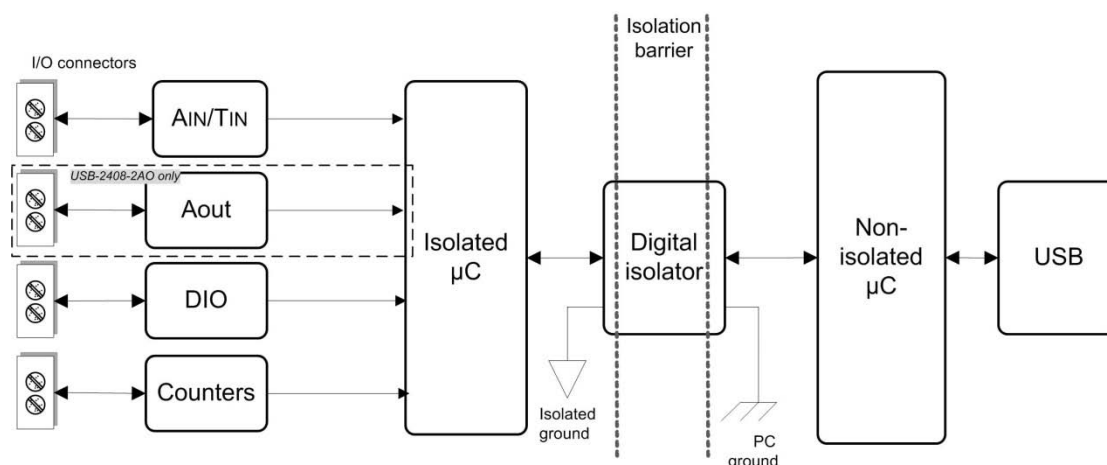

Figure 6. USB-2408 Series input isolation diagram
- All analog measurements are made relative to the isolated ground. See Figure 6 for details.